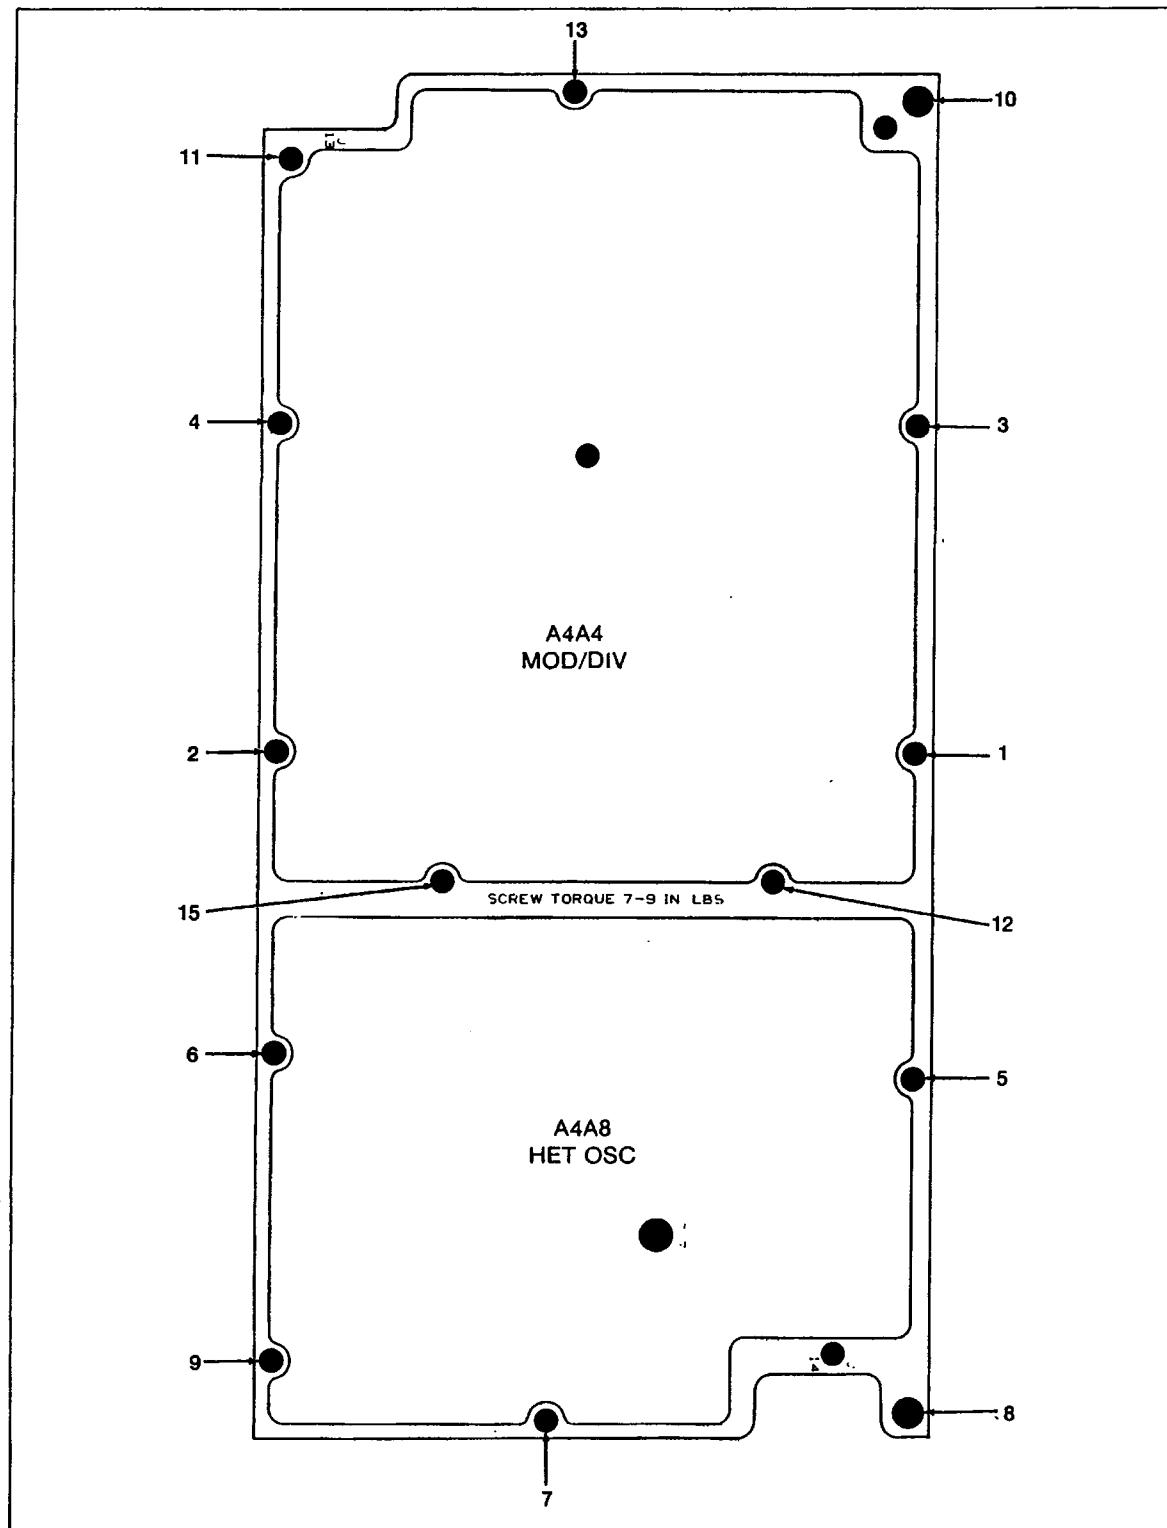

Figure 3-14. Torque Sequence, A4A4, A4A8, Top of Output Module
a. Torque all screws to 3 inch-pounds in the numerical sequence shown in Figure 3-14.
b. Torque all screws 7 to 9 inch-pounds in the numerical sequence shows in Figure 3-14. The torque value should be the same for all screws.